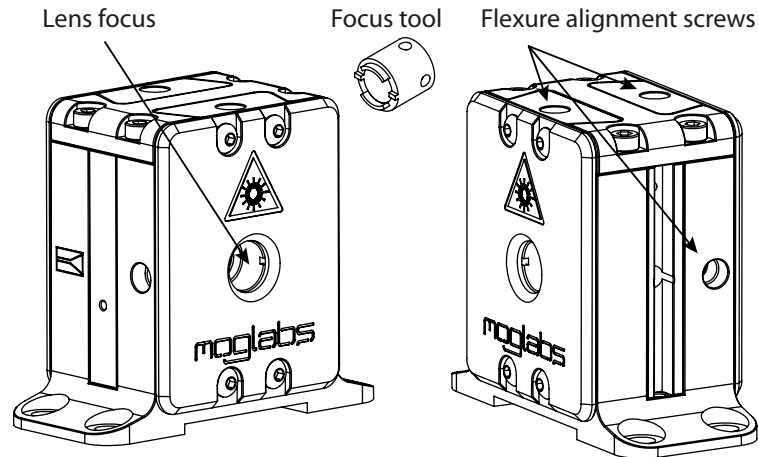

Figure 3.2: TA power block, showing location of flexure screws for adjusting alignment of input and output lenses.
6. The beams into and out of the TA chip are focused with aspheric lenses mounted to wire-cut flexures. Using the flexure alignment screws (see fig. 3.2), adjust the input collimation lens position so that the weak alignment beam exits (from the input side of the MSA) parallel to and aligned with the MSA. Adjust the input focus by rotation of the lens mount using the focus tool provided with your amplifier (see fig. 3.2).